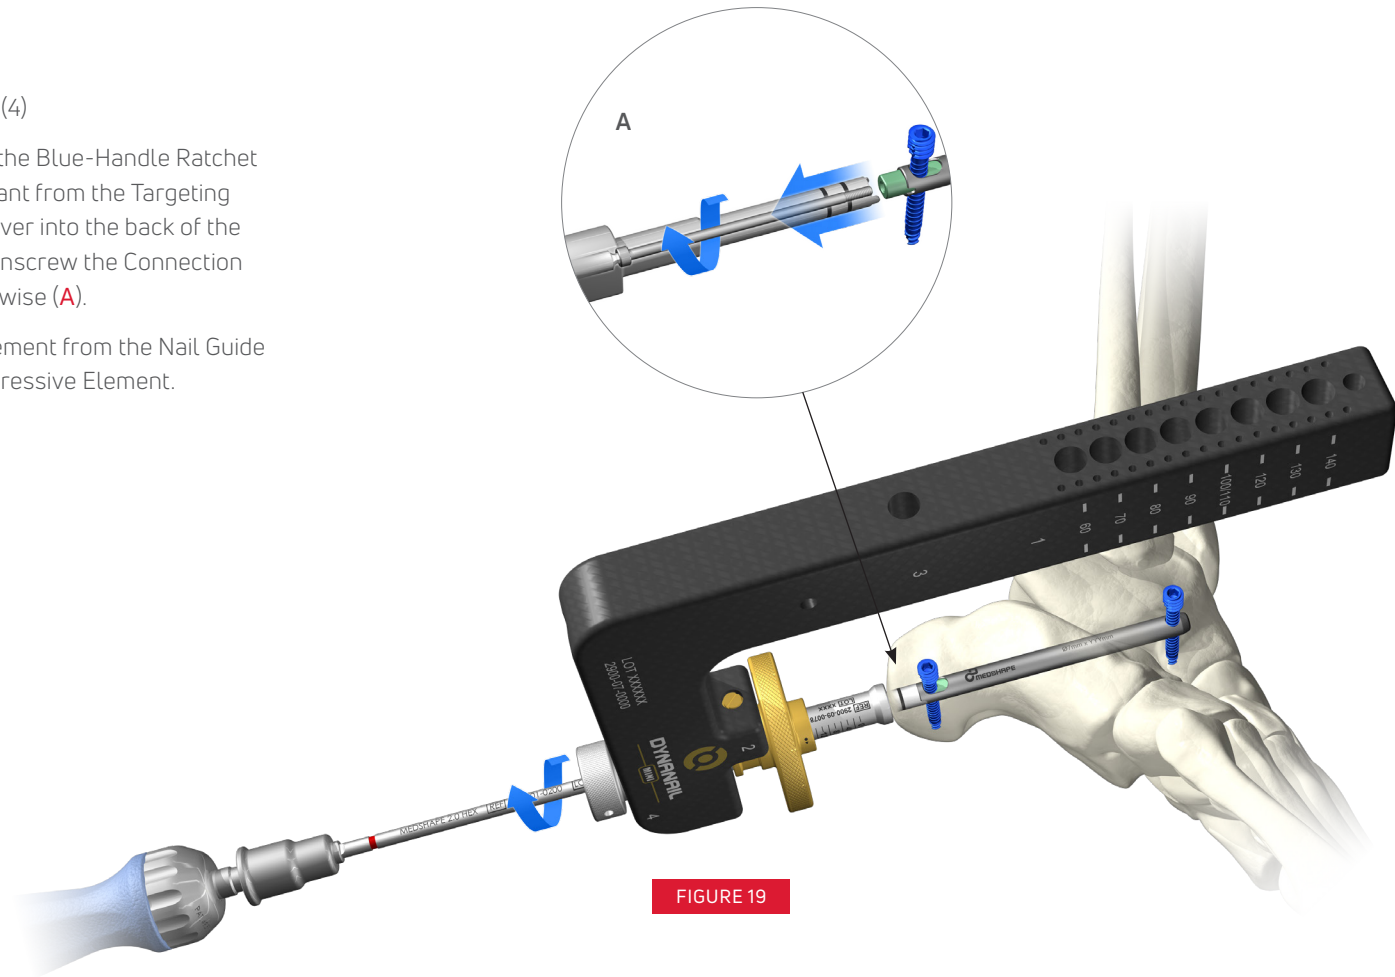

FIGURE 19
1. 2 mm Hex Driver (2)
2. Blue-Handle Ratchet Driver (4)
Attach the 2 mm Hex Driver to the Blue-Handle Ratchet Driver. To release the Nail Implant from the Targeting Frame, insert the 2 mm Hex Driver into the back of the Retention Knob (FIGURE 19). Unscrew the Connection Screw by turning counterclockwise (A).